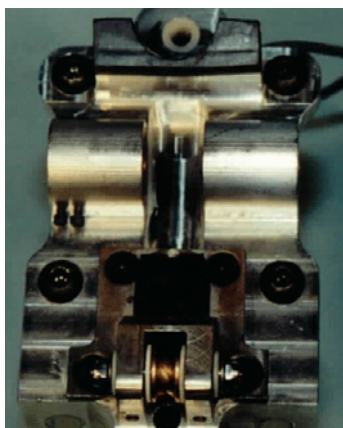

Figure 5.12- Head / Neck mounting bolt locations
15. Insert four 1/4-28 x 1" BHSCS {5/32} into the mounting holes in the Neck / Head Mounting Platform (T1NKM210) from the bottom side as shown in **Figure 5.12**.